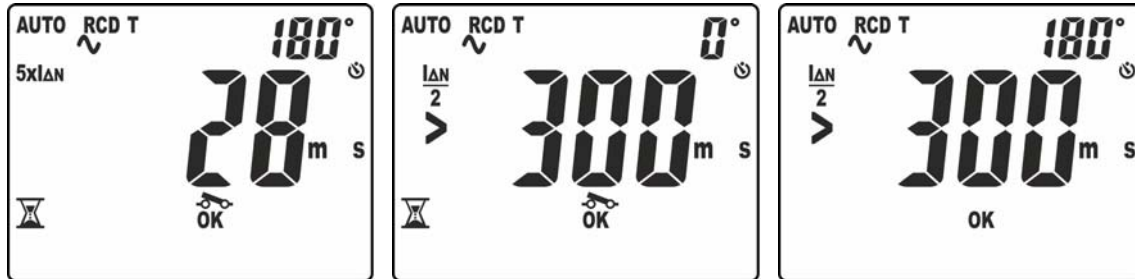

Fig. 33: Tripping time in AUTO mode – Screen 2
13. The fourth test carried out is the one with test current $5 \times I_{\Delta n}$ and polarity 180° . The result of partial measurement is shown on the display with indication "OK" or "NOT OK" (see Fig. 33 – right side). Symbol "⚡" flashing indicates that the RCD must be reset.
14. The fifth test carried out is the one with test current $\frac{1}{2} I_{\Delta n}$ and polarity 0° . The result of partial measurement is shown on the display with indication "OK" or "NOT OK" (see Fig. 33 – middle). Message ">300ms" indicates that the full scale of the instrument has been reached, to indicate that the RCD correctly did not trip in this situation. Symbol "⚡" flashing indicates that the RCD must be reset.
15. The sixth and last test carried out is the one with test current $\frac{1}{2} I_{\Delta n}$ and polarity 180° . The result of partial measurement is shown on the display (see Fig. 33 – right side). Message ">300ms" indicates that the full scale of the instrument has been reached, to indicate that the RCD correctly did not trip in this situation. Indication "OK" or "NOT OK" indicates in this case also the final result of the test